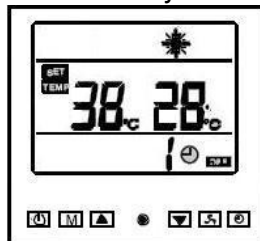

**Figure 13: Automatic start settings.**
To start the heat pump, press . The heat pump starts within 3 minutes. The last selected operating mode (heating or cooling19), see Figure 13, Figure 14 and Paragraph 5.2.13.8, the last temperature set and the current pool water temperature (heating or cooling) is immediately displayed.
- Heating, is displayed, see Figure 13.
The temperature read by each sensor can be displayed by pressing  (for model BP-xxWS-B (xx=35, 50), press ) and hold down for 3 seconds with the pump is running, see Paragraph 5.2.4. To display temperatures read by the various sensors, press  (for model BP-xxWS-B (xx=35, 50), press ). The temperature read by the sensor is displayed for 10 seconds, if no other key is pressed, or press  to return usual information to the display, see Figure 13 and Figure 14.